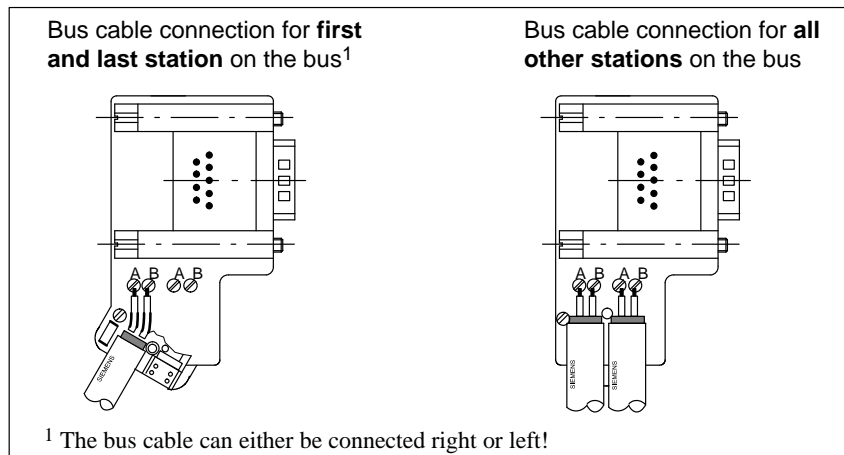

Figure 7-12 Connecting the Bus Cable at the Bus Connector (6ES7 972-0B.20 ...)
5. Insert the green and red wires into screw-type terminal block as shown in Figure 7-12.